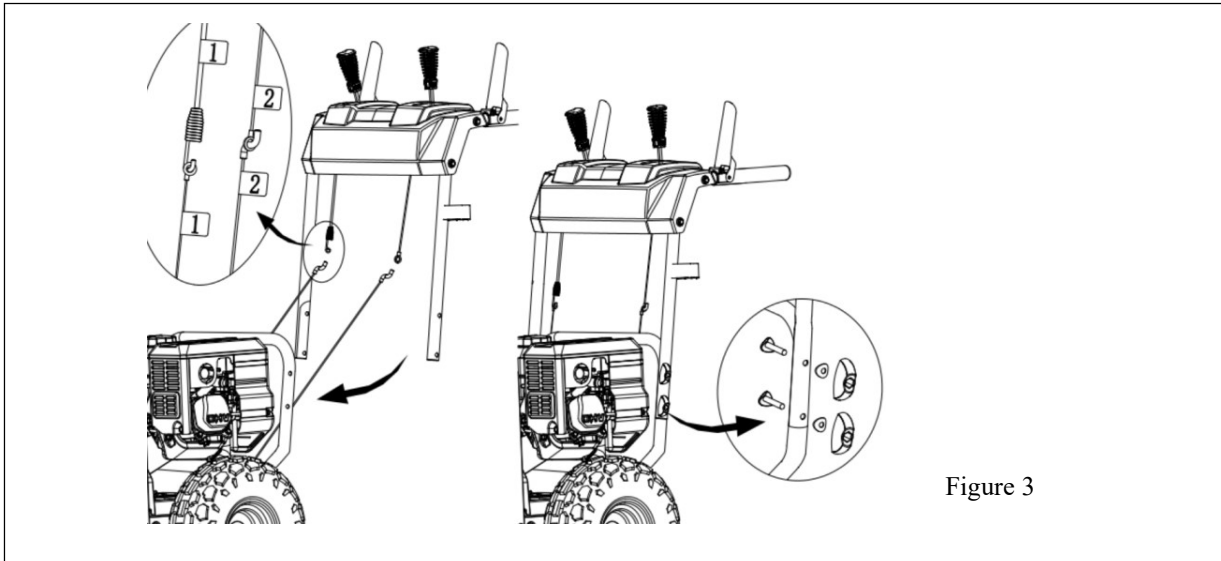

Figure 3
3. When attaching Assembly Hardware, make sure ALL cables are underneath the Frame (Upper & Lower) Handles after installation as indicated in Figure 3. VERY IMPORTANT!!!!**
5. Verify that the connection for the Upper & Lower Drive/Auger Cables is accurate. (See Figure 3)